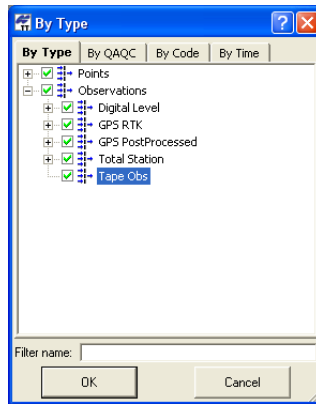

Figure 4-69. Filter by Parameters Dialog Box
*by parameters* dialog box displays (Figure 4-69 on page 4-73).
This dialog box has four filter types: *By Type*, *By QAQC*, *By Code*, and *By Time* (Figure 4-69).